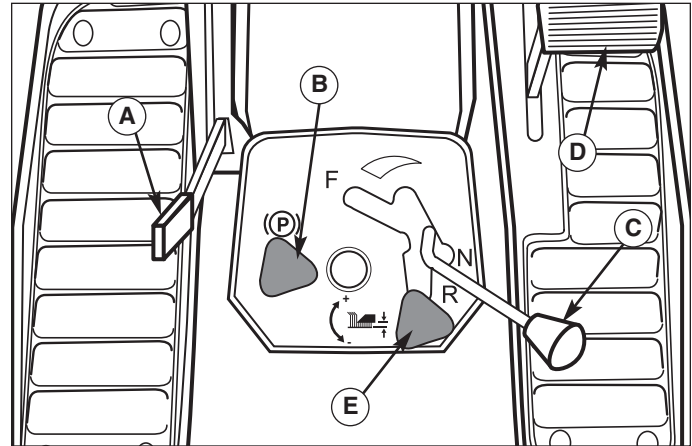

Figure 4. Controls
1. Remove the fuel cap (A, Figure 4).
Ground speed is selected by releasing the clutch/brake pedal (D, Figure 4) and moving the control lever (C, Figure 4) to the appropriate speed selection. If the terrain is rough, hilly or sloping, use first or second gear. If the grass is wet or over 3" (76 mm) high, use full engine speed (with slow ground speed) so the mower will have enough power to cut the grass.
1. If you are ready to mow, lower the mower from the transport position using lever (A, Figure 4) and set the mowing height using the Dial-A-Cut™ Control (E, Figure 4).
4. Release the parking brake by depressing the clutch/brake pedal and pushing knob (B, Figure 4) down.
5. Move the ground speed control lever (C, Figure 4) to the desired direction and speed of travel to set the rider in motion.
1. Move the ground speed control lever (C, Figure 4) into the NEUTRAL position to make a gradual stop. To make a more rapid stop, depress the clutch/brake pedal (D, Figure 4).
2. Engage the parking brake by fully depressing brake pedal and pulling up on parking brake knob (B, Figure 4).
1. When traveling to or from the work site, fully raise the mower using the mower lift lever (A, Figure 4). At the work site, lower mower using the lift lever.
2. Use the Dial-A-Cut™ control (E, Figure 4) to adjust the height of the mower. Pull back slightly on mower lift lever (A, Figure 4) to relieve pressure and turn clockwise to raise mower cutting height, or counterclockwise to lower cutting height.